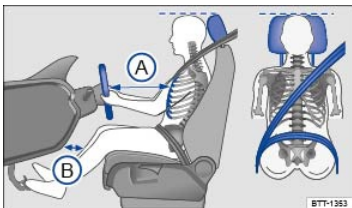

Fig. 25 Proper safety belt positioning and head restraint adjustment. The driver should never sit closer than 10 inches (25 cm) from the steering wheel.
- Adjust head restraints so that the upper edge of the head restraint is at least at eye level or higher. Position the back of your head as close as possible to the head restraint ⇒ Fig. 25 (dotted line).
- Adjust the steering wheel so that there are at least 10 inches (25 cm) between the steering wheel and your breast bone ⇒ Fig. 25(A), ⇒ Steering wheel. Wher